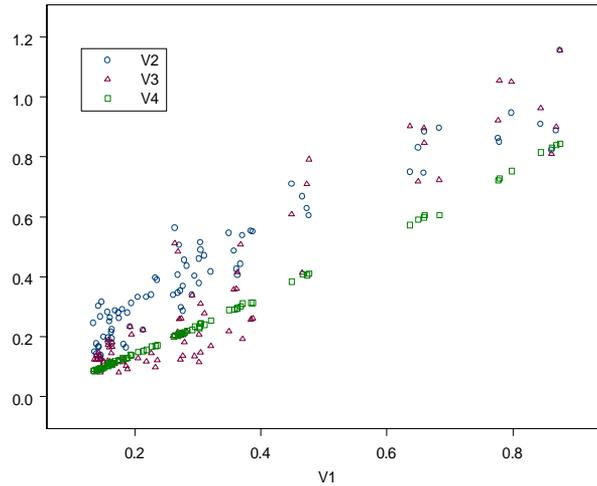

Figure 3.34: Multiple plots in a graph for the sensors data.
3. Click the **Auto Legend** button  to add a legend. The resulting graph is shown in Figure 3.34.